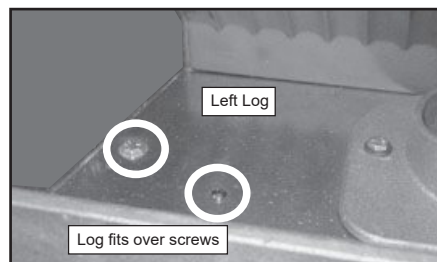

Figure 21.4
1. Place the left log as shown. There are 2 indentations in the bottom of the log to fit over the screw heads in the firebox (**Figures 21.4 & 21.5**).